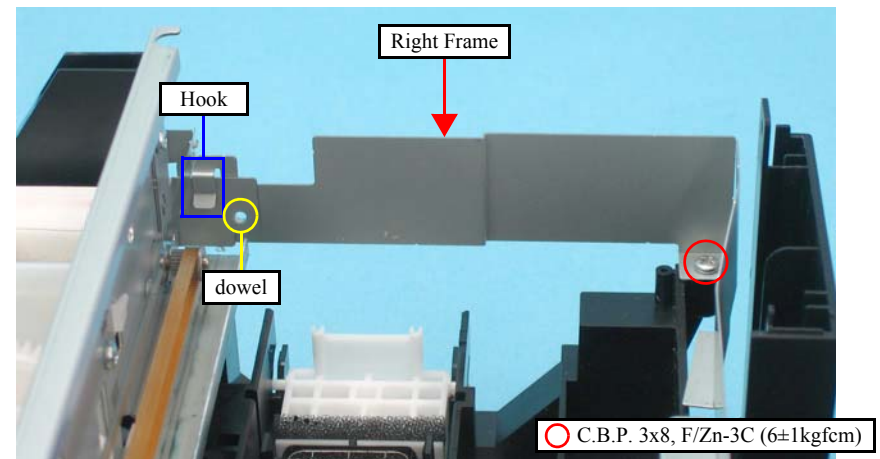

Figure 4-55. Removing the Front Frame/Right Frame (3)
- As shown in Figure 4-55, secure the Front Frame and Right Frame together with the screw. (Place the Right Frame on top of the Front Frame.)